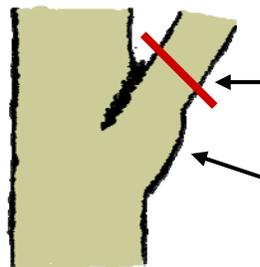

Figure 4. Thinning Cut
**With a *thinning cut*, the final cut should be just beyond the branch collar.** Since the woundwood that grows over the pruning cut originates in the branch defense zone, it is imperative that the branch collar is not cut or otherwise injured in pruning. To eliminate error, cut a little beyond the collar region (i.e., 1/8 inch for small diameter twigs, and 1/4 inch for larger branches). [Figure 4]